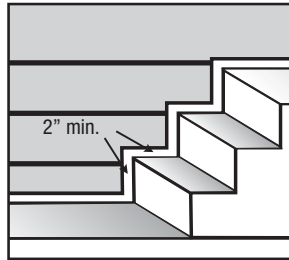
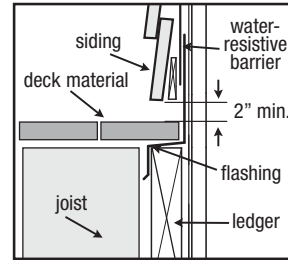

FIGURE 8
FIGURE 9
- Maintain a 2" minimum clearance between James Hardie® products and paths, steps and driveways (fig. 8 and fig. 9)